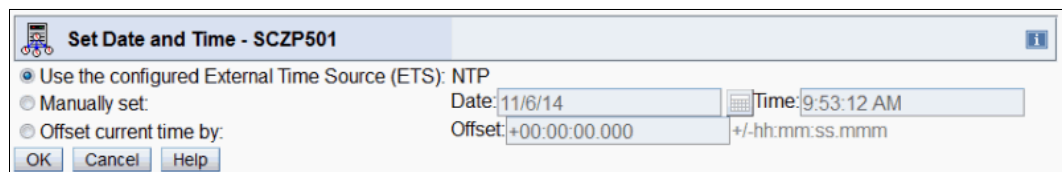

Figure 9-46 System (Sysplex) Time: Set Date and Time panel
- b. In the Set Date and Time panel (Figure 9-46), select an option. In this example, we select **Use the configured External Time Source (ETS): NTP**. Click **OK**.